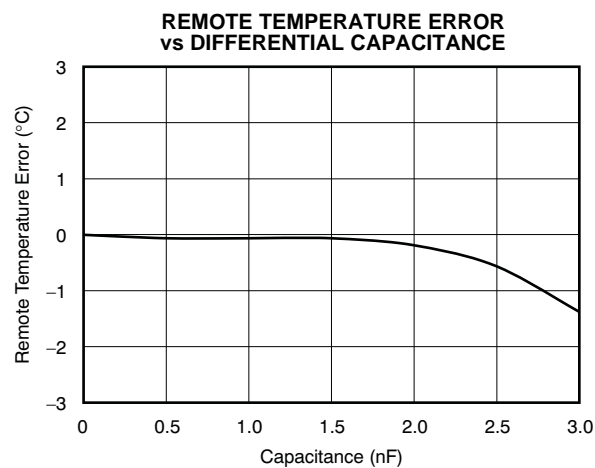

Figure 6.
(3) C_{DIFF} (optional) should be $< 1000\text{pF}$ in most applications. Selection of C_{DIFF} depends on application; see the Filtering section and Figure 6, *Remote Temperature Error vs Differential Capacitance*.
- (1) Diode-connected configuration provides better settling time. Transistor-connected configuration provides better series resistance cancellation.
- (2) R_S (optional) should be $< 1.5k\Omega$ in most applications. Selection of R_S depends on application; see the Filtering section.
- (3) C_{DIFF} (optional) should be $< 1000pF$ in most applications. Selection of C_{DIFF} depends on application; see the Filtering section and Figure 6, *Remote Temperature Error vs Differential Capacitance*.
- (4) TMP422 SMBus slave address is 1001 100 when connected as shown.
The TMP421/22/23 tolerate differential input capacitance of up to 1000pF with minimal change in temperature error. The effect of capacitance on sensed remote temperature error is illustrated in Figure 6, *Remote Temperature Error vs Differential Capacitance*.